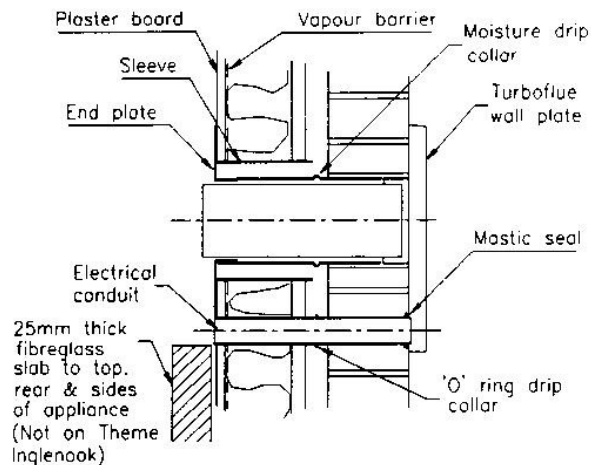

Fig. 5 Timber framed cutout
9. Push the endplate into position. (See Fig. 5)